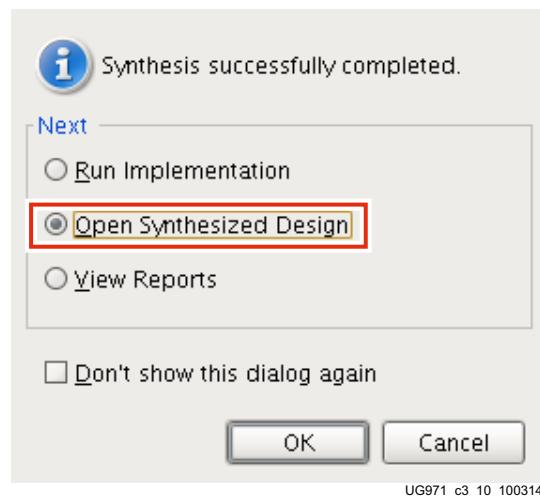

Figure 3-10: Synthesis Completed
9. When synthesis is done, a Synthesis Complete window pops up. Select **Open Synthesized Design** and click **OK** (Figure 3-10).